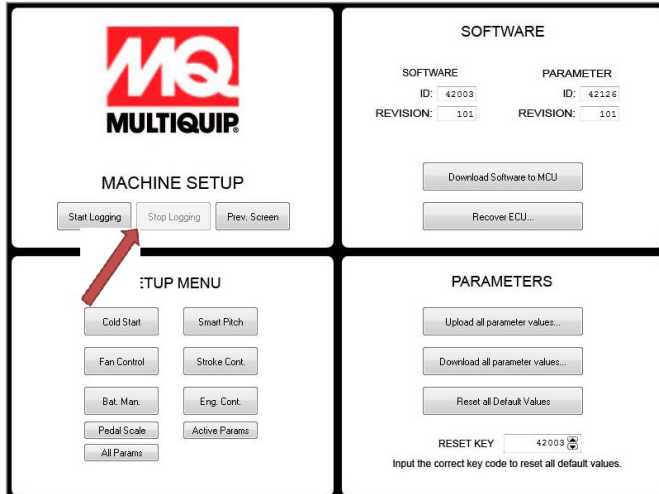

Figure 25. Stop Logging Screen
2. Click on "Stop Logging" button (Figure 25).